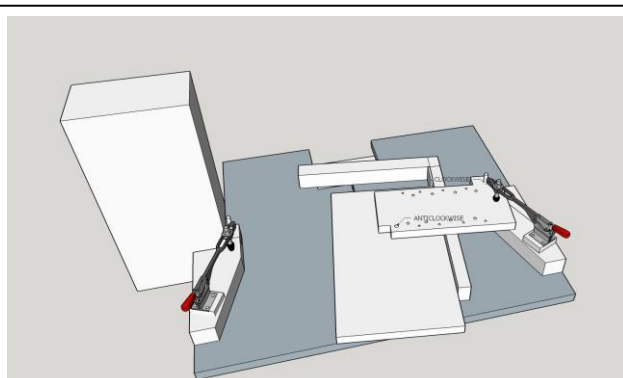

Figure 6: RHS Clockwise Tails
- d. Cut the tails as described in Part 1. See Figure 6.